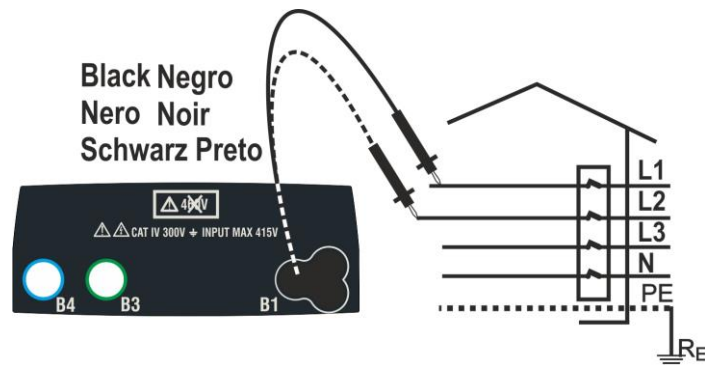
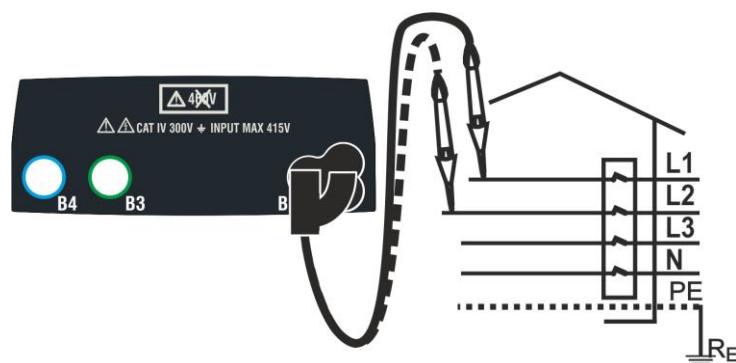

Fig. 31: Phase sequence check with terminal lead
Fig. 32: Phase sequence check with remote lead
- Insert the black lead connector into the corresponding input lead B1 of the instrument. As an alternative, use the single cable and apply the relevant alligator clips to the free ends of the cables. It is also possible to use the remote lead by inserting its multipolar connector into the input lead B1. Connect the alligator clips or the remote lead to the electrical mains according to Fig. 31 or Fig. 32
- Under these conditions, connect the alligator clips, the tips or the remote lead to phase L2 in accordance to Fig. 31 or Fig. 32.